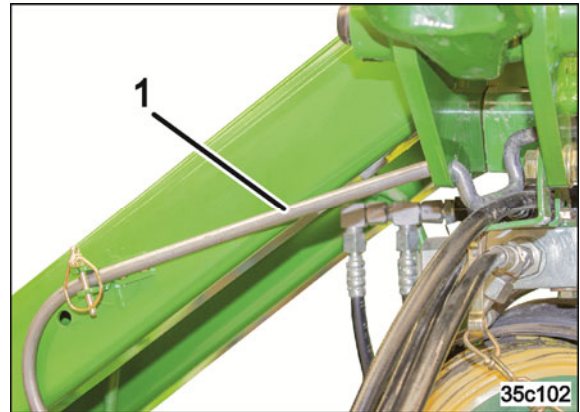

Fig. 85
12. Fasten the bracket to the transport bracket and secure it using a linch pin (Fig. 85/1).